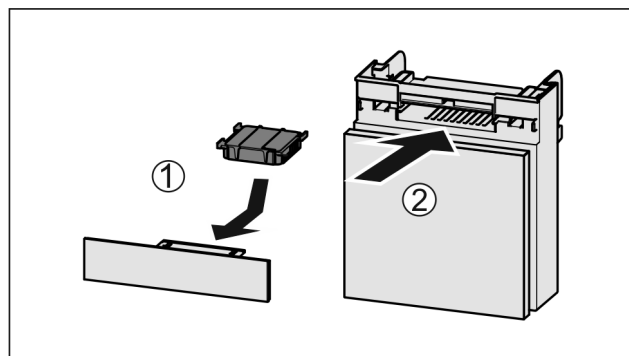

Fig. 169
- Insert the carbon filter as shown in the diagram Fig. 169 (1).
- Push the compartment in Fig. 169 (2).